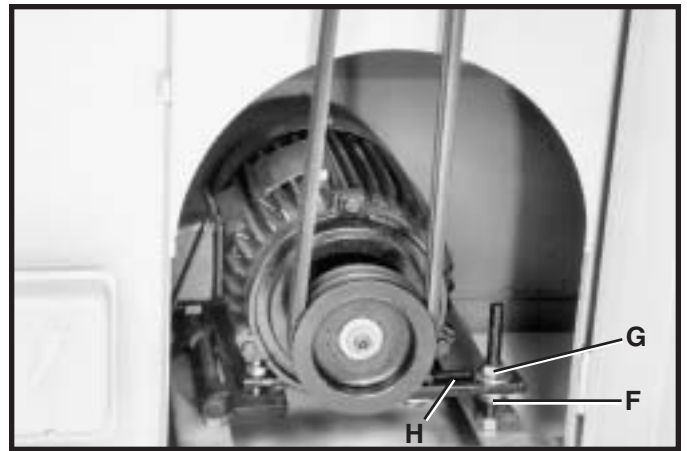

Fig. 34
4. To adjust belt tension, turn nuts (F) and (G) Fig. 34, to move motor plate (H) up or down until there is approximately 1/2 inch deflection at the center span of the belts, as explained in **STEP 3**.